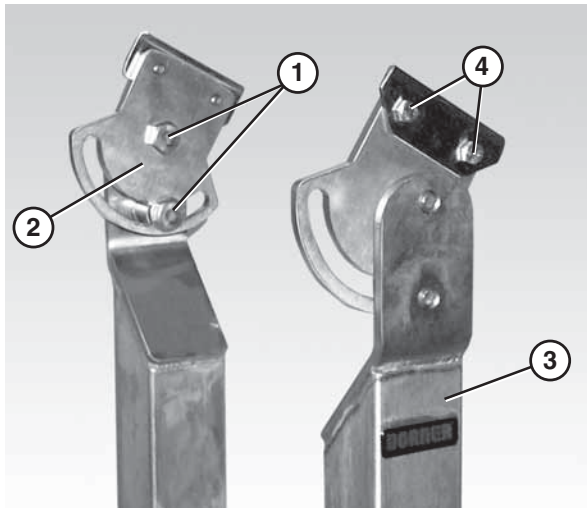

Figure 5
2. For slotted brackets, loosen the two bracket screws (Figure 5, item 1) and adjust the bracket (Figure 5, item 2) so that the top is at approximately the same angle as the conveyor. Do not tighten the screws.
3. Loosen the two M6 clamp plate screws (Figure 5, item 4) on each side of the stand (Figure 5, item 3).
5. Adjust the bracket angle on the slotted brackets (Figure 5, item 2) to match the conveyor angle and tighten the screws (Figure 5, item 1) to 50 ft•lb (72 N•m).